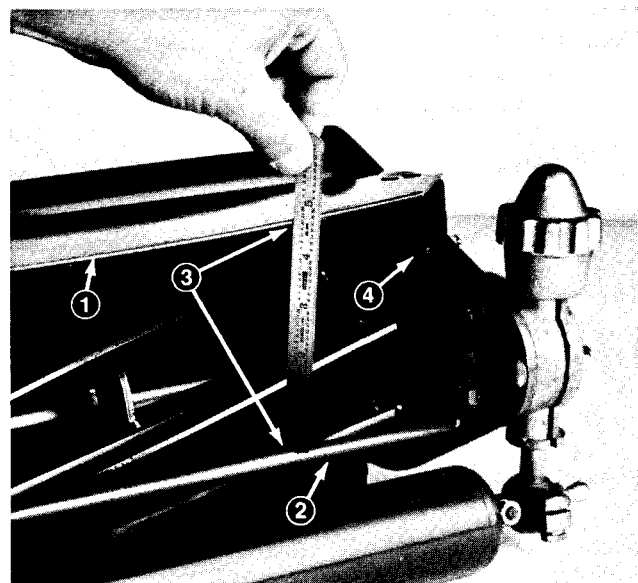

Figure 16
1. Set cutting unit in normal cutting position and measure distance from top of front crossbar to shield at each end of cutting unit (Fig. 16).
2. Height of shield from crossbar for normal cutting conditions should be 4 3/4 inches. Loosen cap-screws and nuts securing shield to each side-plate, adjust shield to correct height and tighten fasteners (Fig. 16).